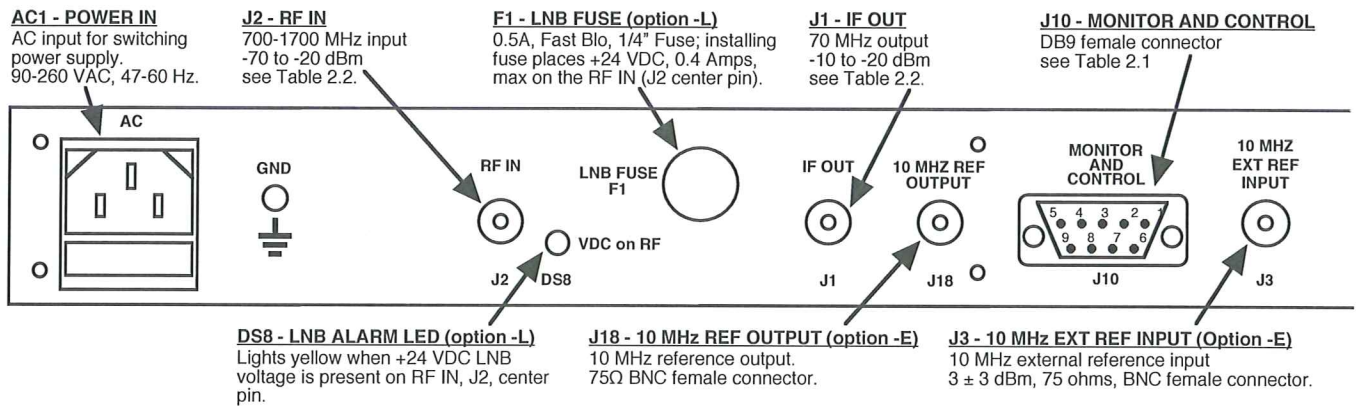

FIGURE 2.2 2016-0717 Rear Panel I/Os
Figure 2.2 shows the input and output connectors on the rear panel.
1. Connect a -70 dBm to -20 dBm signal to RF IN, J2 (Figure 2.2).